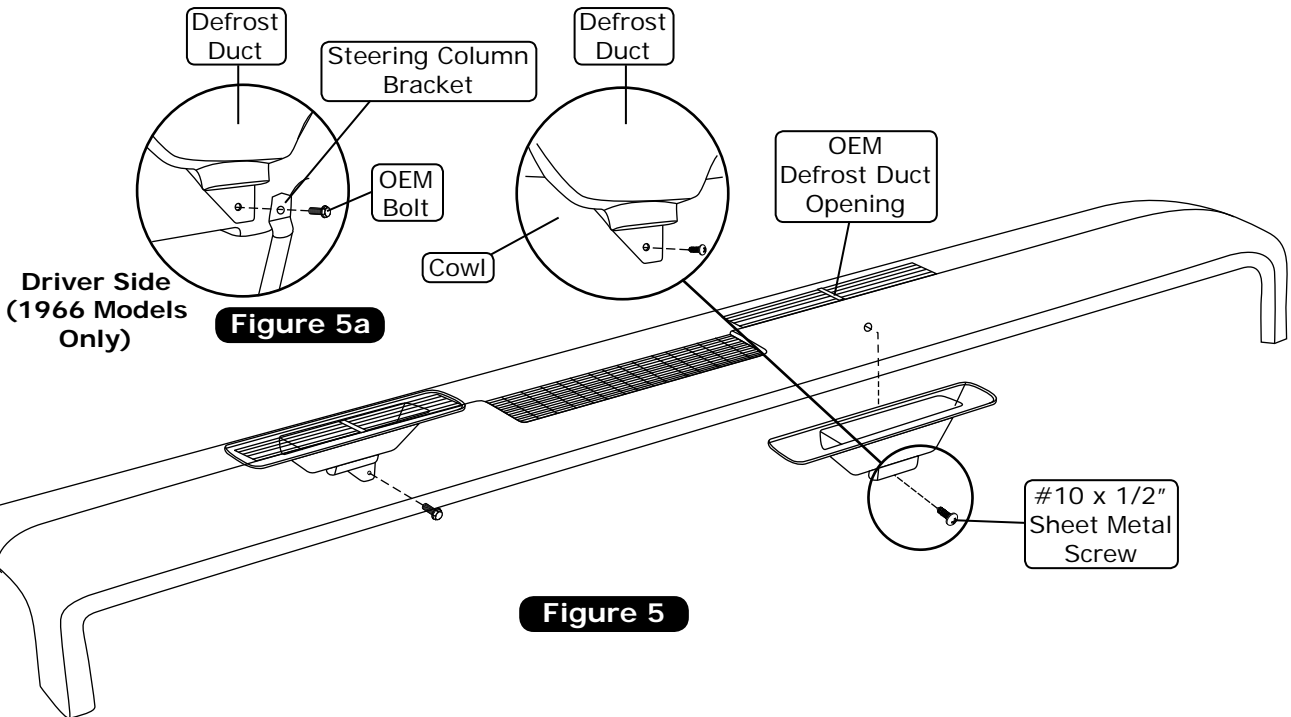

Figure 5
1. Install the defrost ducts under the dash, aligning them with the OEM openings. Attach the driver and passenger side defrost ducts to the cowl using (2) #10 x 1/2" sheet metal screws (See Figure 5, below).